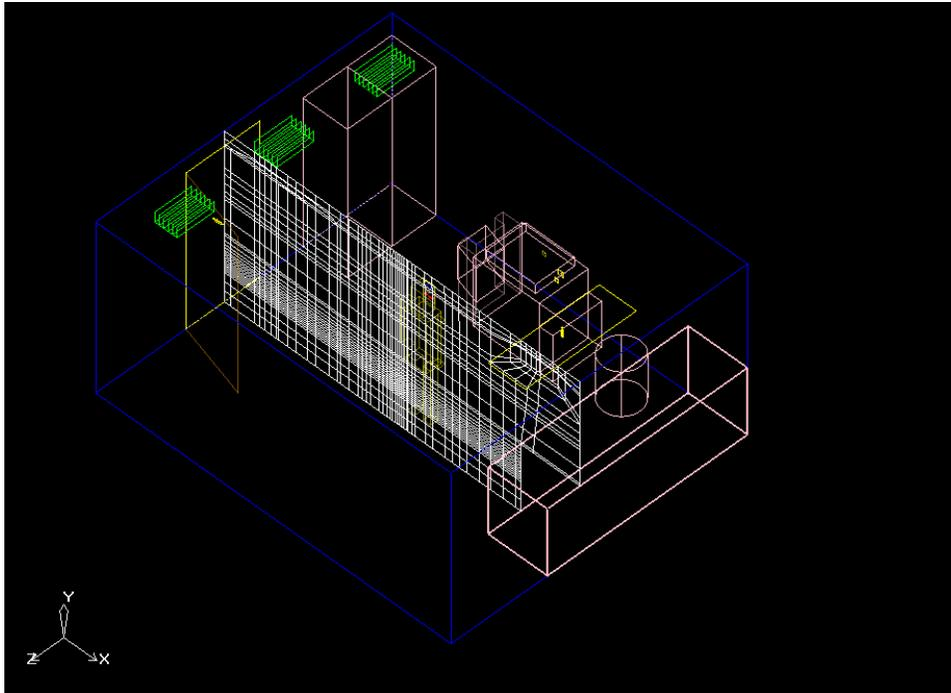

Figure 3.8: Coarse Mesh on the  $x$ - $y$  Plane
*An example of the view of the mesh on an x-y plane is shown in Figure 3.8.*